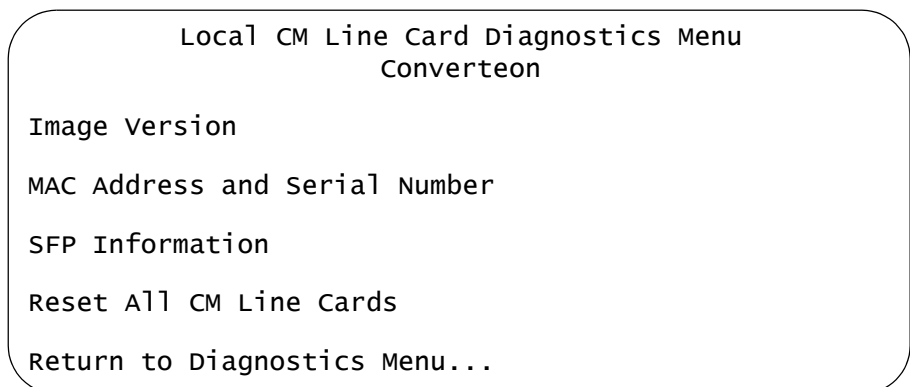

Figure 83. Local CM Line Card Diagnostics Menu
2. From the Diagnostics Menu, select **Local CM Line Card Diagnostics Menu** to display the menu in Figure 83.